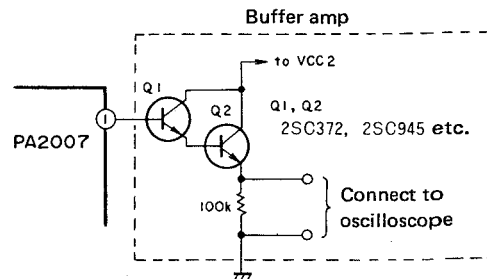
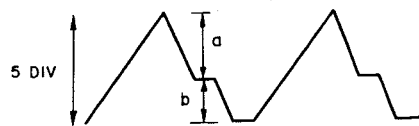

Fig. 11-3 Buffer amp connection
Fig. 11-4 Sawtooth wave adjustment
4. Connect the buffer amplifier to pin ① of IC1 PA2007 of the motor circuit P. C. board as shown in Fig. 11-3 and connect the output to an oscilloscope.
5. After the waveform shown in Fig. 11-4 appears on the oscilloscope, adjust the oscilloscope gain so the peak of the sawtooth waveform is at division 5. Then adjust VR1 (33 1/3 rpm) to a:b = 2.7:2.3 as shown in Fig. 11-3. (Be careful because noise enters easily.)
7. Connect an oscilloscope to pin ⑦ of PA2007 and check that the waveform is 55.5 Hz for 33 1/3 rpm and 75 Hz for 45 rpm.